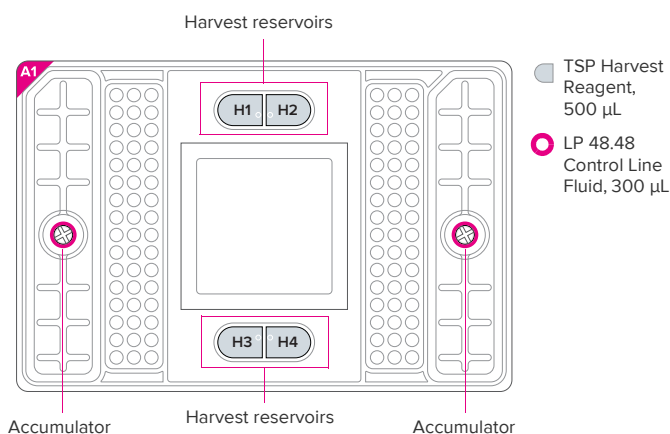

Figure 1. Priming map for the LP 48.48 IFC
- ❑ 2 Inject LP 48.48 Control Line Fluid into each accumulator on the IFC (see Figure 1).
- ❑ 3 Place the IFC on a flat surface and pipet 500 μL of TSP Harvest Reagent into each of the harvest reservoirs H1, H2, H3, and H4 (see Figure 1).